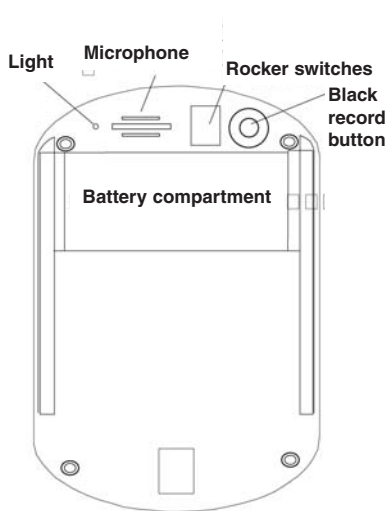

Figure 12
Your TABS® monitor (Figure 12) has audio recording capability. You can record a message up to 10 seconds in length.
2. Push down the black **RECORD** button and hold it down until you are finished recording. The light will be on during this time indicating the monitor is recording (Figure 12).